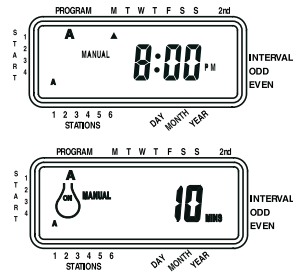

Figure 12: Manual Watering in Either the A or B Program Only Using Manual Operation
- To activate each stations assigned watering durations for the A program only, press the manual key, followed by the next key. This will activate stations with assigned watering durations in the A program only. To initiate this semi-automatic watering, press enter [See Figure 12].